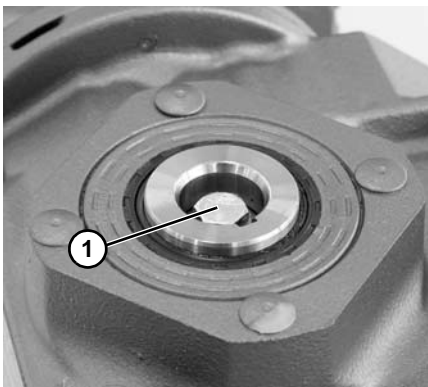
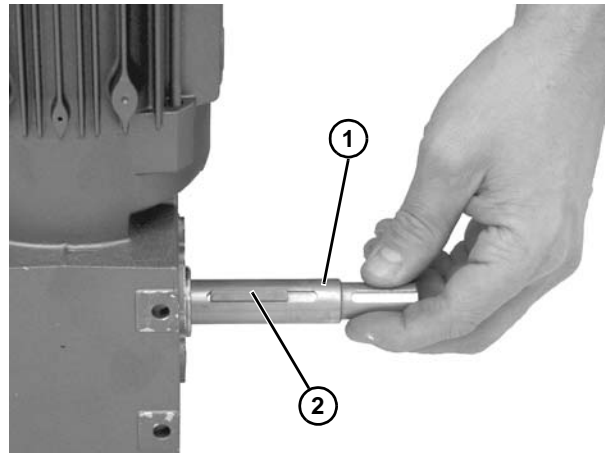

Figure 16
Figure 17
8. Remove shaft mounting bolt (**Figure 16, item 1**) and remove shaft.
9. Insert the new shaft (**Figure 17, item 1**) and key (**Figure 17, item 2**) into new gear reducer. Tighten screw (**Figure 16, item 1**) to 35 in-lb (4 N-m).